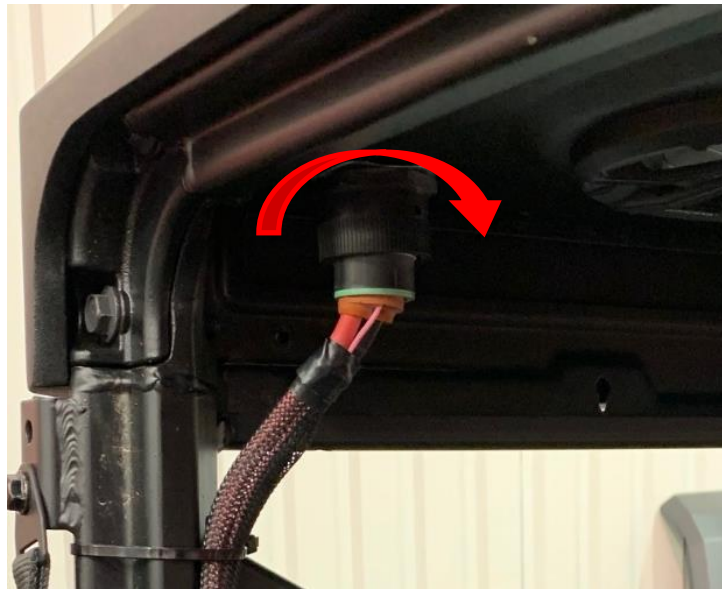

Figure 13: Align connector terminals and rotate 1/4 turn.
14. Line up the terminals on the chassis harness connector with the bulk head connector located on the back driver's side corner of the top. Plug the connector in and rotate the $\frac{1}{4}$ turn collar to lock the connector together. See Figure 13.